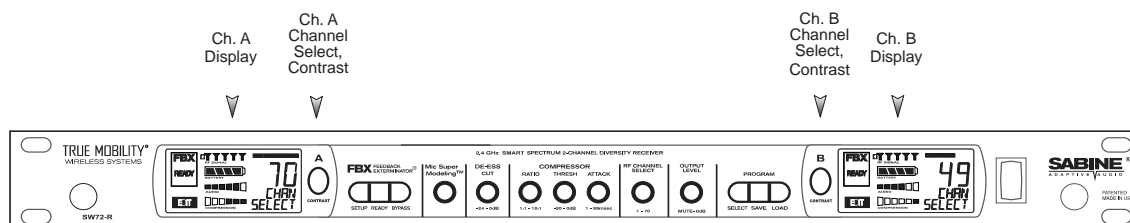

Fig. 5h
2. **Decide on front or rear panel antenna mounting (to maintain line-of-sight path).** Antennas typically mount on the rear panel of your receiver, but the included accessory SWA700 front mounting kit can be screwed onto the front and connected via jumper to the back panel terminals. When mounting receivers in a rack that is deeper than the receiver, move the antennas to the front for improved reception. For any rack mounted receiver, try to keep the top 1.25 " (3 cm) of both antennas extended outside the sides of the rack (see Fig. 5h). Non-rack mounted receivers should be oriented so that the antennas face the transmitters.